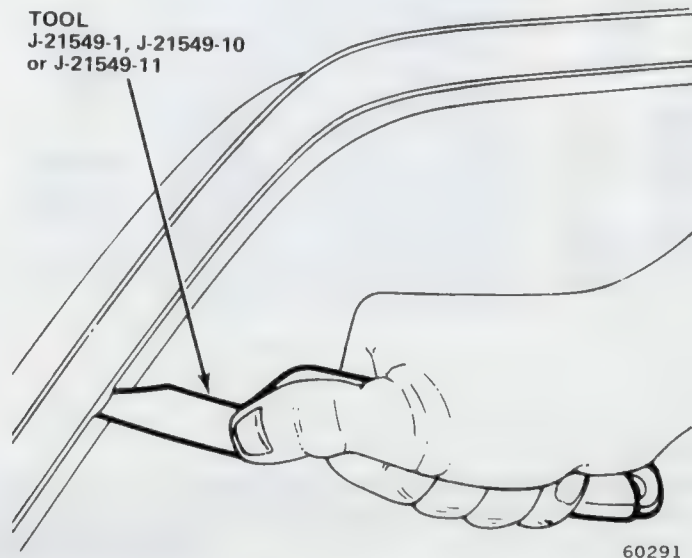

Fig. 3K-3 Reveal Moulding Removal—Typical
- (2) Insert tool between moulding and glass parallel with glass.
- (3) Pry moulding from clips with a rolling action (fig. 3K-3).